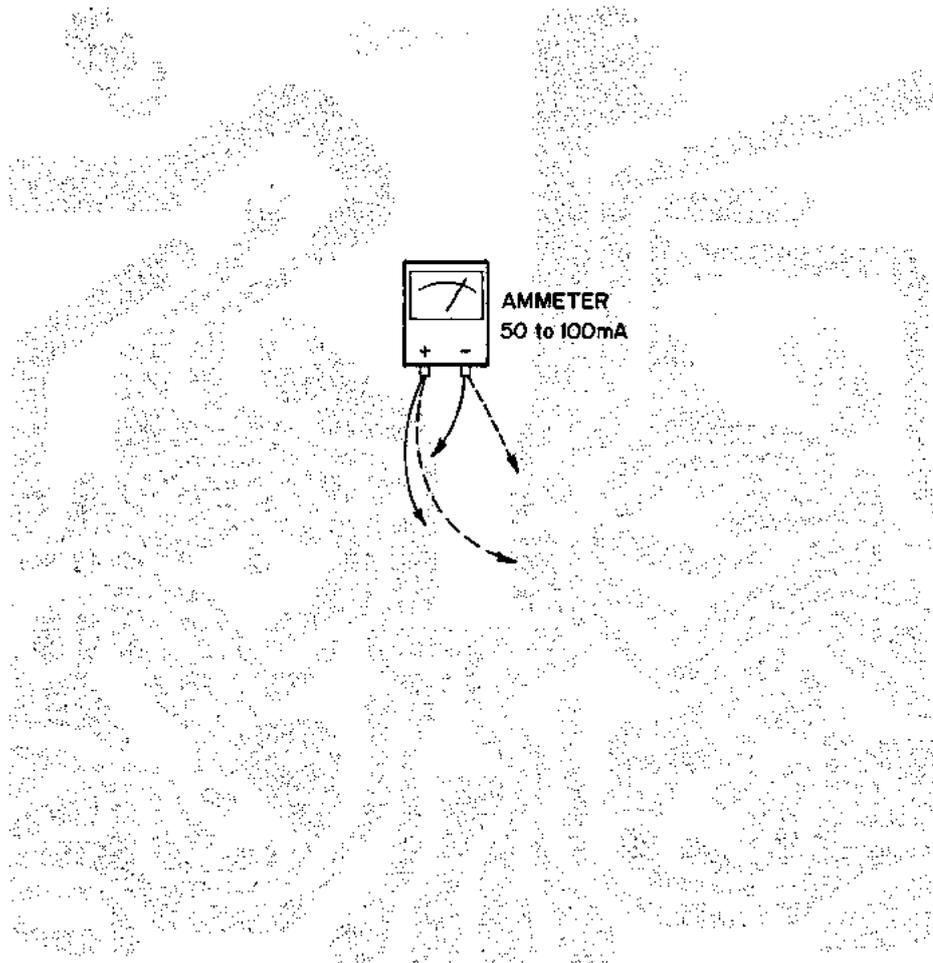

Fig. 26
1. POWER AMP. NON-INPUT CURRENT ADJUSTMENT (Refer to Figs. 26,27)
- 3) Adjust semi-fixed resistors VR2 100B(Left) and VR2b 100B(Right) of Power Amp. P.C. Board shown in Fig. 26 to obtain a 40 mA ampere meter indication on both the left and right channels.
- 2) Adjust semi-fixed resistors VR1 30 kB(Left) and VR1b 30 kB(Right) of Power Amp. P.C. Board shown in Fig. 26 to obtain half the value of the power source voltage.